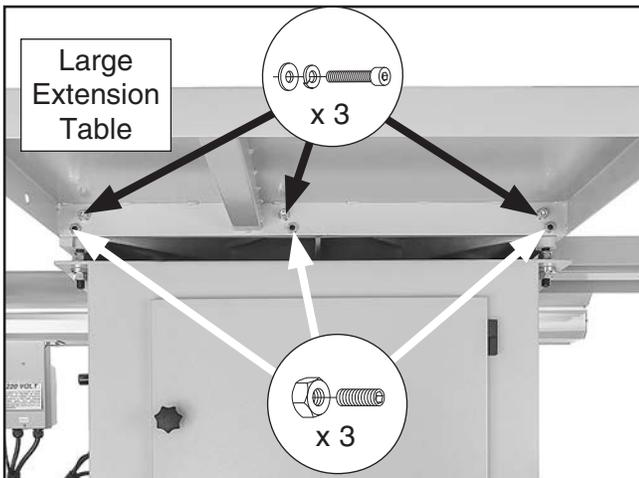

Figure 23. Large extension table attached to cabinet.
- With help of another person to hold large extension table, attach it to cast-iron table with (3) M10-1.5 x 25 cap screws, (3) 10mm lock washers, and (3) 10mm flat washers, as shown in **Figure 23**. Finger-tighten only, for now.
- Thread (3) M10-1.5 x 20 set screws with (3) M10-1.5 hex nuts where shown in **Figure 23**.
- If both tables are *not* parallel with straight-edge, loosen hex nuts on set screws shown in **Figure 23**. Adjust set screws to align top of extension table with top of cast-iron table, then retighten hex nuts to secure setting.